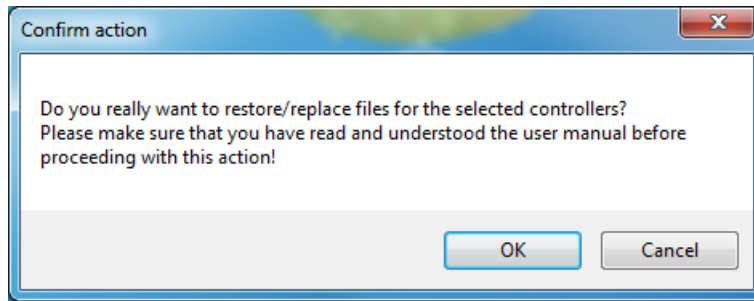

Figure 176. Confirm action dialog
3. Click **Restore Files** and a Confirm action dialog as in Figure 176 is shown. Click **Ok** in the confirmation dialog in order to restore the files.